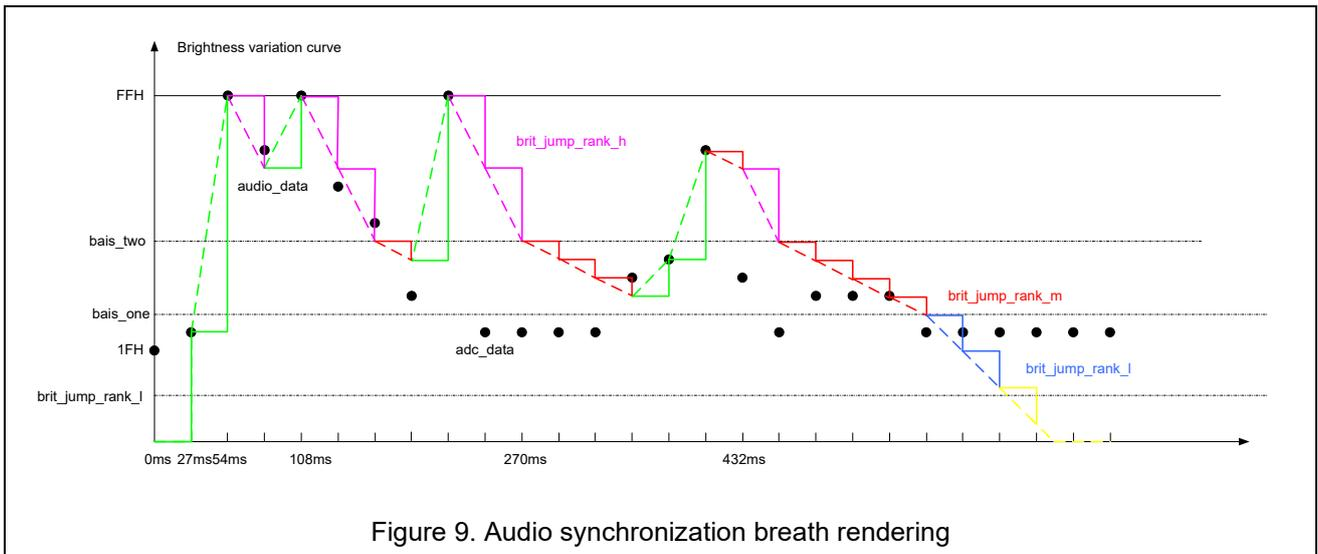

Figure 9. Audio synchronization breath rendering
- (1) brit\_jump\_rank\_h is the actual high brightness level for diminishing, and  $\text{brit\_jump\_rank\_h} = \{\text{brit\_jump\_rank\_hr}, 2'b11\}$ , namely,  $\text{brit\_jump\_rank\_hr} = 11b$ , then  $\text{brit\_jump\_rank\_h} = 1111b = FH$
- (2) Figure 9 is the audio synchronization breath rendering diagram, and the parameter shown as the figure is set by these registers.